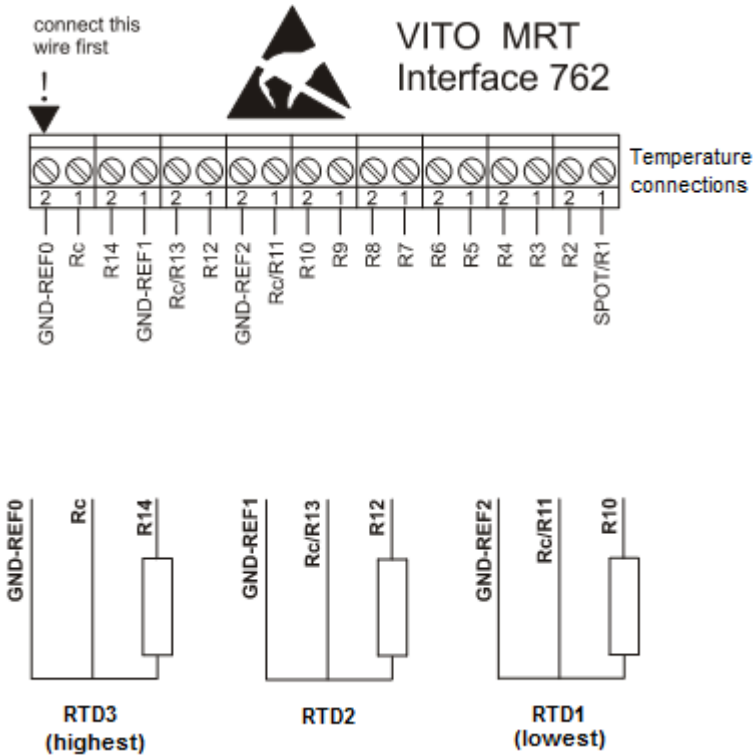

Figure 15 Three separated RTD's connected to 762 VITO-MRT
- 2 or 3 separate RTD's as indicated in figure 15;